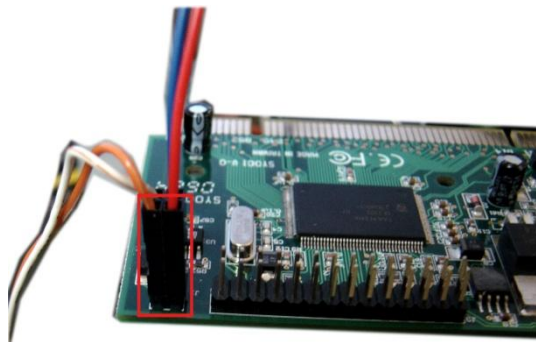

Figure 2.3-6 Connection of the Watchdog cable to four-pin connector of FS-5 video capture card
3. Connect the Watchdog cable to the vacant two-pin or four-pin connector of video capture card with the help of vacant pair of contacts (1/0 or 2/0) – Figure 2.3-4. The Watchdog cable connection to FS-5 video capture card is exemplified in Figure 2.3-6.